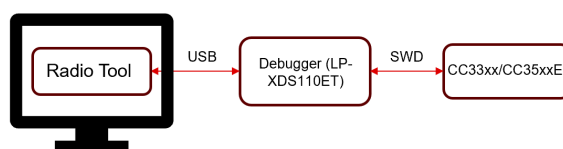
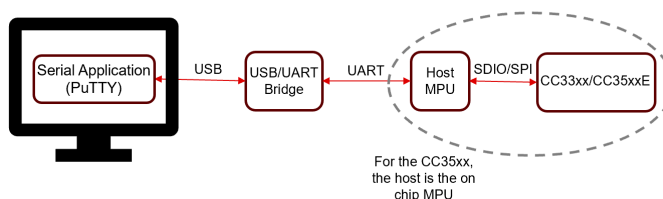

Figure 1-1. Cabling Setup for Radio Tool
Figure 1-2. Cabling setup for Calibrator Tool
- Necessary cabling (See Figure 1-1 and Figure 1-2)